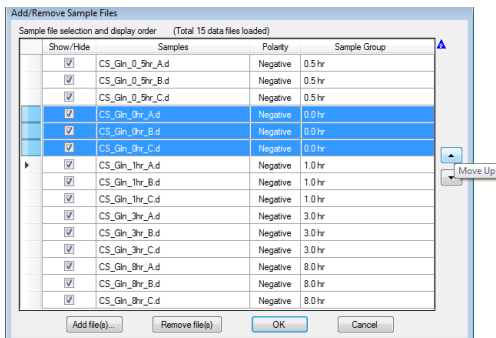

Figure 41 Use the Move Up arrow re-order samples in the Add/Remove Sample Files dialog box
- c Click the **Move Up**  and **Move Down**  arrows, along the right side of the **Add/Remove Sample Files** dialog box, to sort your samples in a logical order and to place replicate samples in sequential rows (Figure 41).